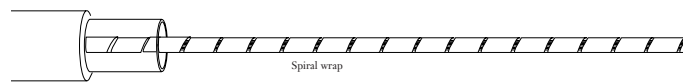

Figure 4
5.3 Install a piece of 1/4-in. OD spiral wrap, 8-in. long, over the ribboned fibers and work it back to the inner core tube. Insert the spiral wrap 1-inch (2.5 cm) into the inner core tube (Figure 4). To make sliding the spiral wrap over the ribbons easy, make sure the ribbons are lying flat on each other.